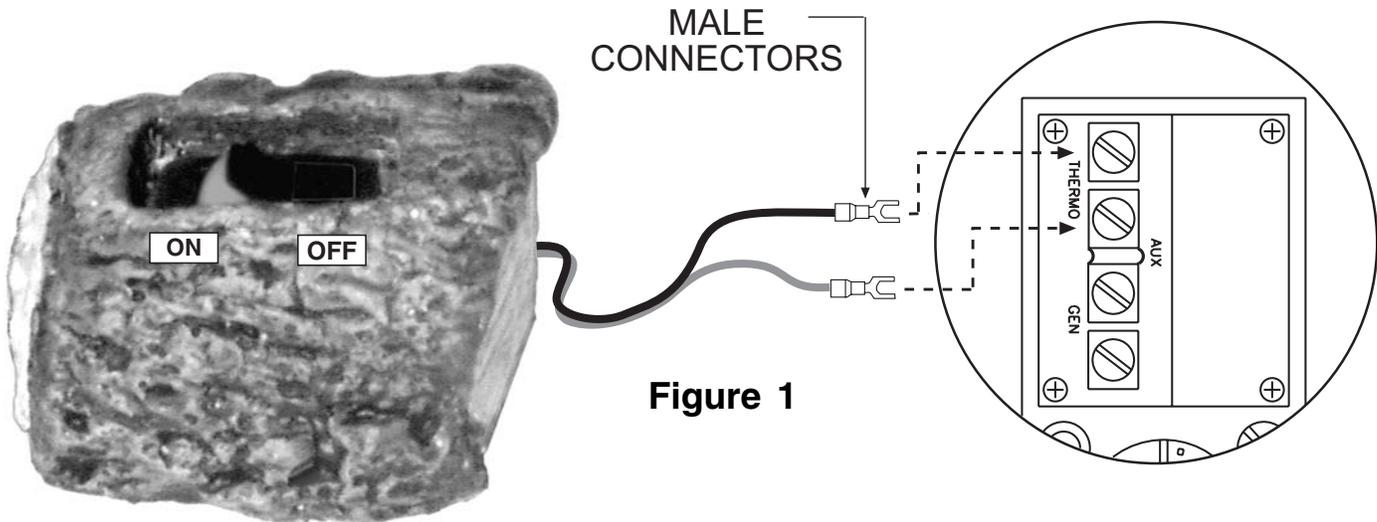

Figure 1
2. Connect the two male connectors of the wood chip switch to the valve terminals (see Figure 1). Use the diagram to the right for correct connection of each remote valve.